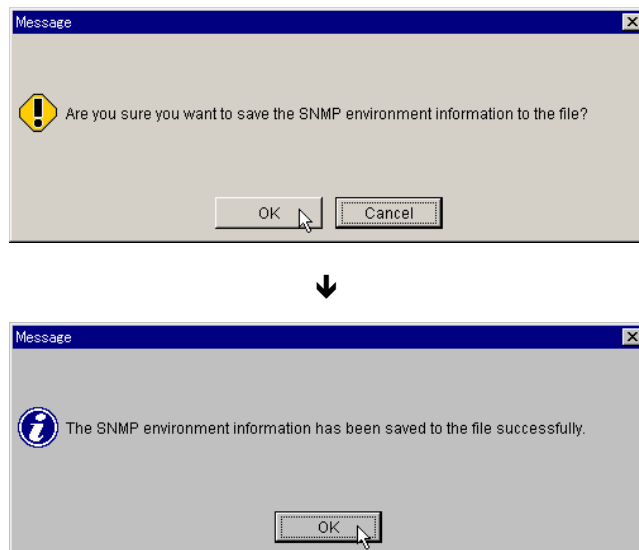

Figure 5.10 Output Confirmation Dialog Box
6. A message appears, confirming that output to the file is complete (Figure 5.10). Click **OK**.